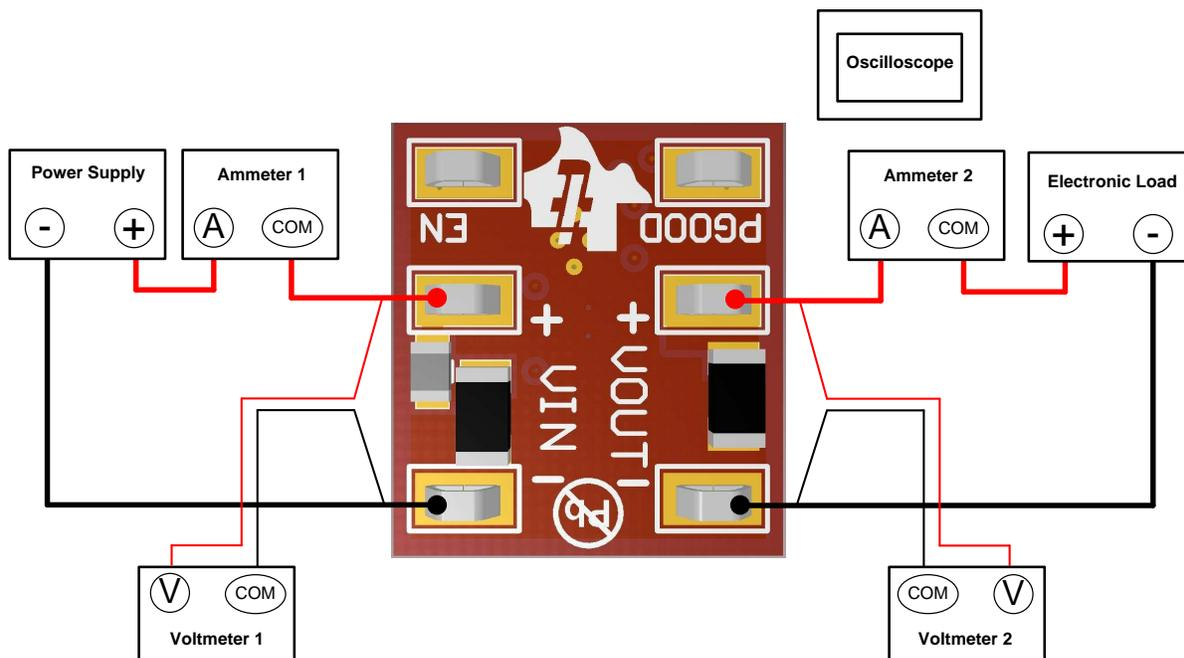

Figure 3. EVM Test Setup
Referencing the EVM connections described in Table 2, the recommended test setup to evaluate the LM5165EVM-HD-P50A is shown in Figure 3. Working at an ESD workstation, make sure that any wrist straps, boot straps or mats are connected referencing the user to earth ground before power is applied to the EVM.
- Prior to connecting the DC input source, it is advisable to limit the source current to 200 mA maximum. Ensure the input source is initially set to 0 V and connected to the VIN and GND connection points as shown in Figure 3. An additional high-ESR, low leakage, input bulk capacitor is recommended if long input lines are used.